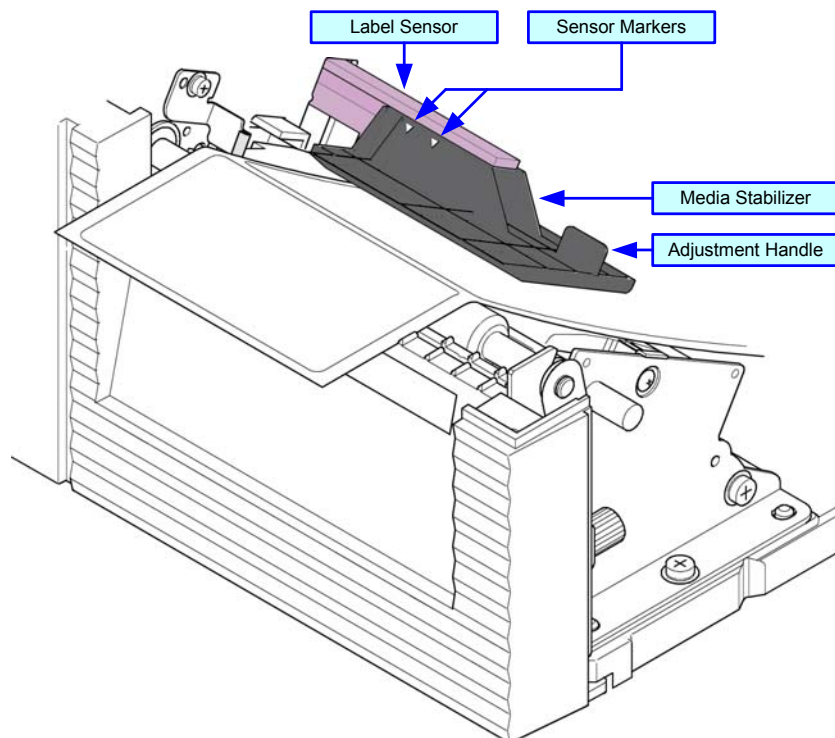

Figure 6-4, Label Sensor Positioning
- 2 Find label sensor adjustment handle (Figure 6-4) located between the upper and lower print assemblies.